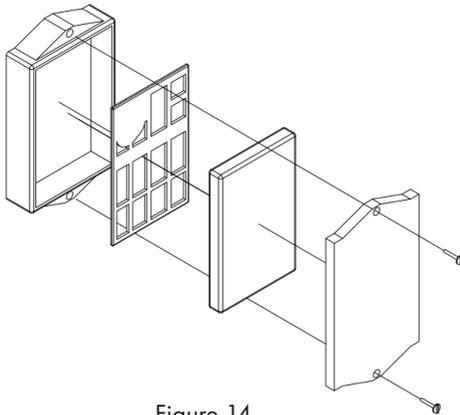

Figure 14
- Loosen the upper and lower screws of the air filter cover and remove the filter as shown in Figure 14.